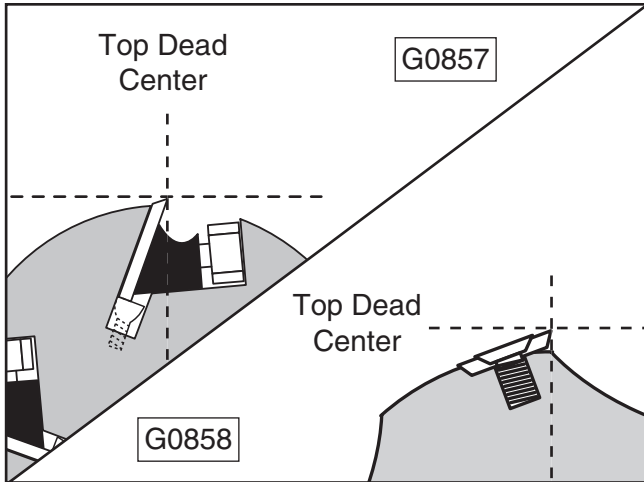

Figure 55. Knife or insert at TDC.
6. Use motor pulley to rotate cutterhead until one knife or insert is at TDC (its highest point during rotation), as shown in **Figures 55–56**.